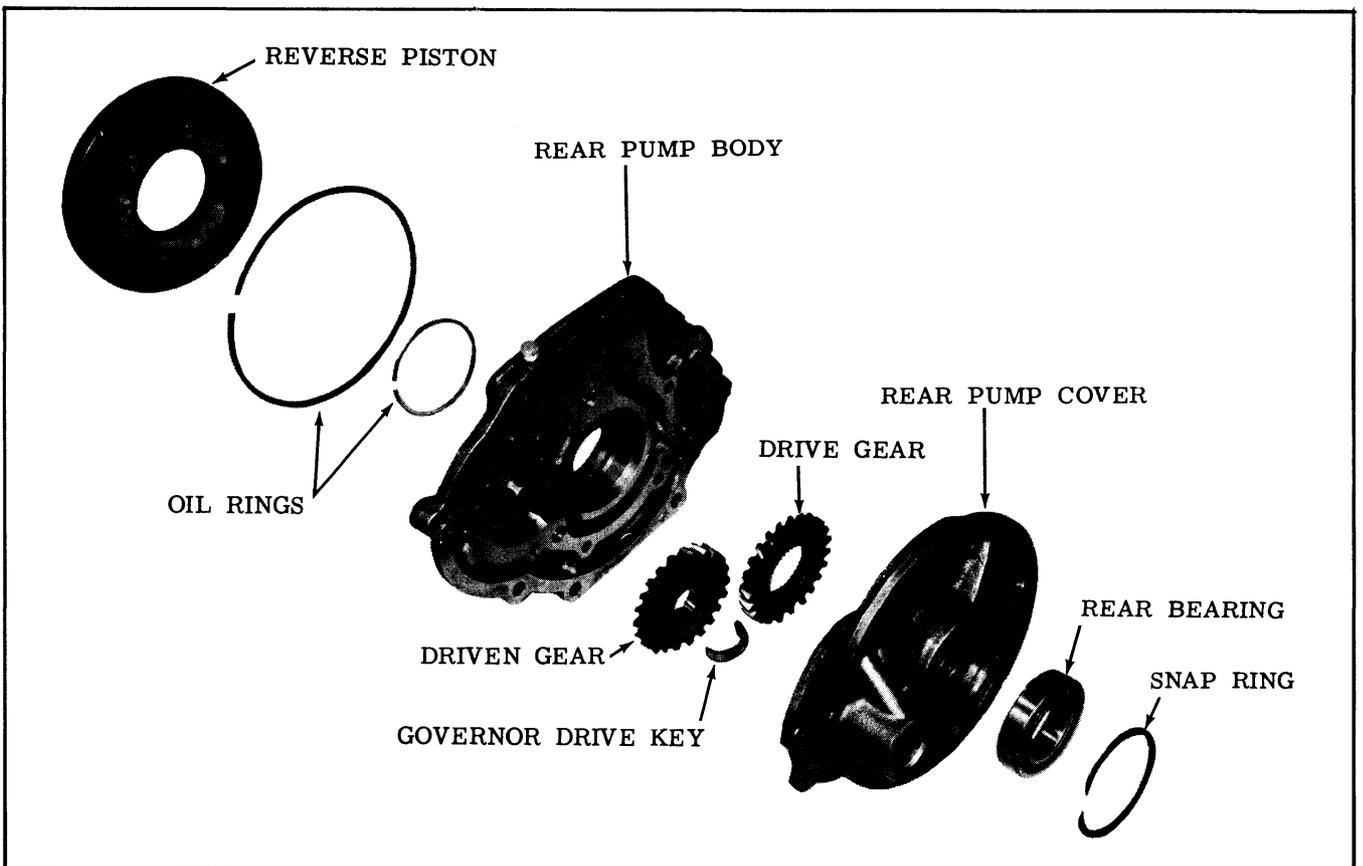

Fig. 3-109 Rear Oil Pump
**ASSEMBLY OF THE REAR OIL PUMP (FIG. 3-109)**